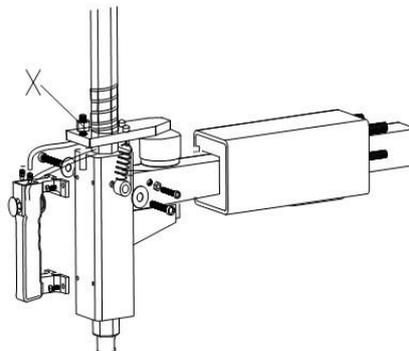

Fig 19
Note: If Vertical Arm not be locked or not meet the requirement that 2-3mm from the bottom of Mounting head/demounting head to rim, please adjust Hexagonal Locking Plate, refer to Fig 19 and adjust the (X).